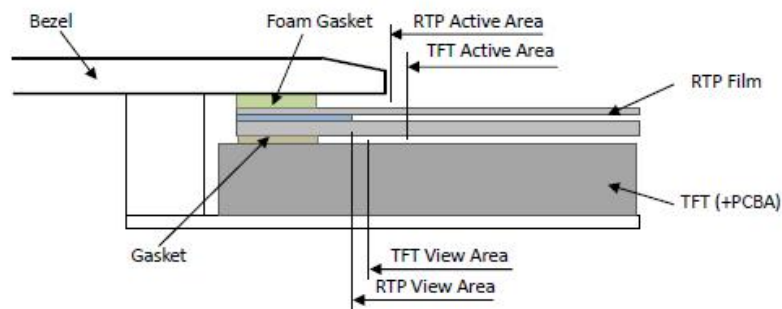

Figure 5
- In general design, RTP V.A. should be bigger than the TFT V.A. and RTP A.A. should be bigger than the TFT A.A. (Figure 5)
RTP 的可视区 V. A. 应不小于 TFT 的可视区 V. A. 及 RTP 的动作区 A. A. 应不小于 TFT 的动作区 A. A. (附图 5)